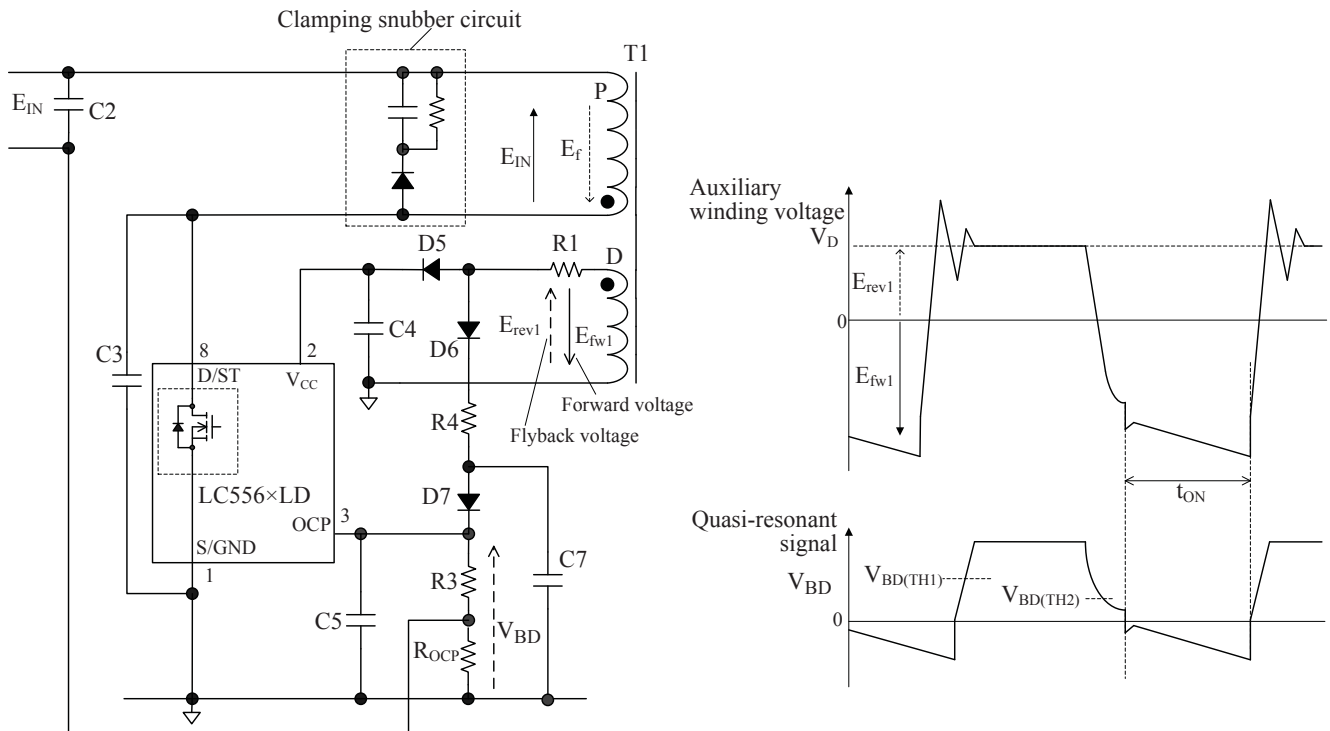

Figure 15. OCP pin peripheral circuit (left) and auxiliary winding voltage and quasi-resonant signal (right)
Figure 15 shows the voltage waveform of the OCP pin peripheral circuit and auxiliary winding, D.
During the turning-off of the power MOSFET, the auxiliary winding voltage is fed through the delay circuit (D6, R4, C7, and D7 of figure 15) to the OCP pin, and the OCP pin is provided the quasi-resonant signal of positive voltage.
- The clamping snubber circuit (refer to figure 15) must be adjusted properly.